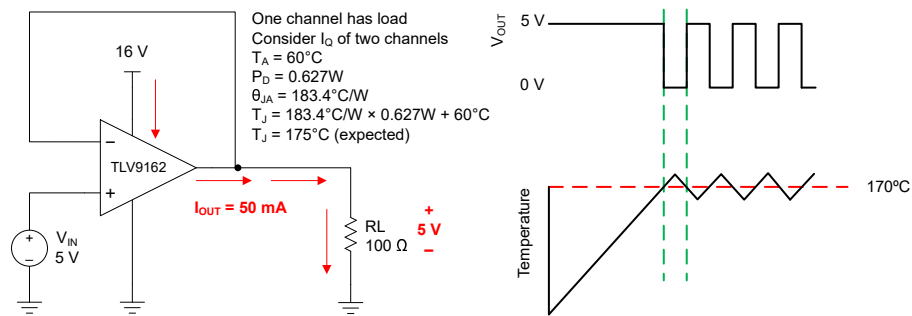

Figure 7-4. Thermal Protection
The internal power dissipation of any amplifier causes its internal (junction) temperature to rise. This phenomenon is called *self heating*. The absolute maximum junction temperature of the TLV916x is 150°C. Exceeding this temperature causes damage to the device. The TLV916x has a thermal protection feature that reduces damage from self heating. The protection works by monitoring the temperature of the device and turning off the op amp output drive for temperatures above 170°C. Figure 7-4 shows an application example for the TLV9162 that has significant self heating because of its power dissipation (0.627 W). In this example, both channels have a quiescent power dissipation while one of the channels has a significant load. Thermal calculations indicate that for an ambient temperature of 60°C, the device junction temperature reaches 175°C. The actual device, however, turns off the output drive to recover towards a safe junction temperature. Figure 7-4 shows how the circuit behaves during thermal protection. During normal operation, the device acts as a buffer so the output is 5 V. When self heating causes the device junction temperature to increase above the internal limit, the thermal protection forces the output to a high-impedance state and the output is pulled to ground through resistor R_L . If the condition that caused excessive power dissipation is not removed, the amplifier will oscillate between a shutdown and enabled state until the output fault is corrected. Please note that thermal performance can vary greatly depending on the package selected and the PCB layout design. This example uses the thermal performance of the TSSOP (8) package.